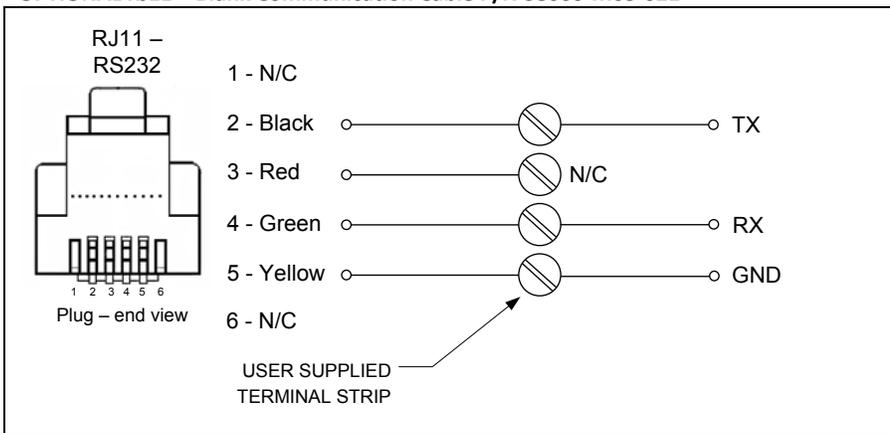

FIG. 2
2. Connect the host computer RS232 to the “RS232” communications port RJ11 connector using the optional accessory cable – refer to **Figure 2**.
3. Turn the main power On/Off (1/0) switch, located on the back of the unit, to the on (1) position.